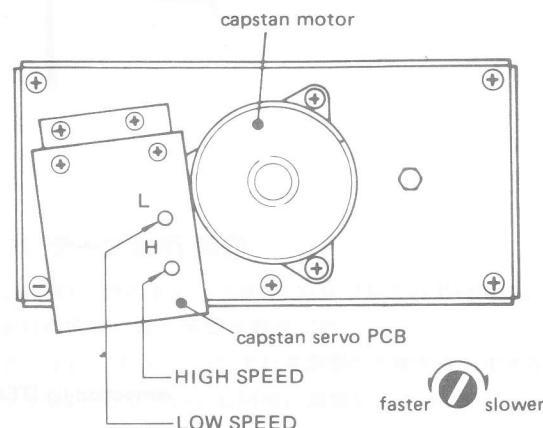

Fig. 2-17 FWD/REV play speed adjustment points
3. Play the tape. Adjust HIGH SPEED control (see Fig. 2-17) for a reading of $3,000\text{Hz} \pm 5\text{Hz}$.
1. 調整個所 図2-17参照